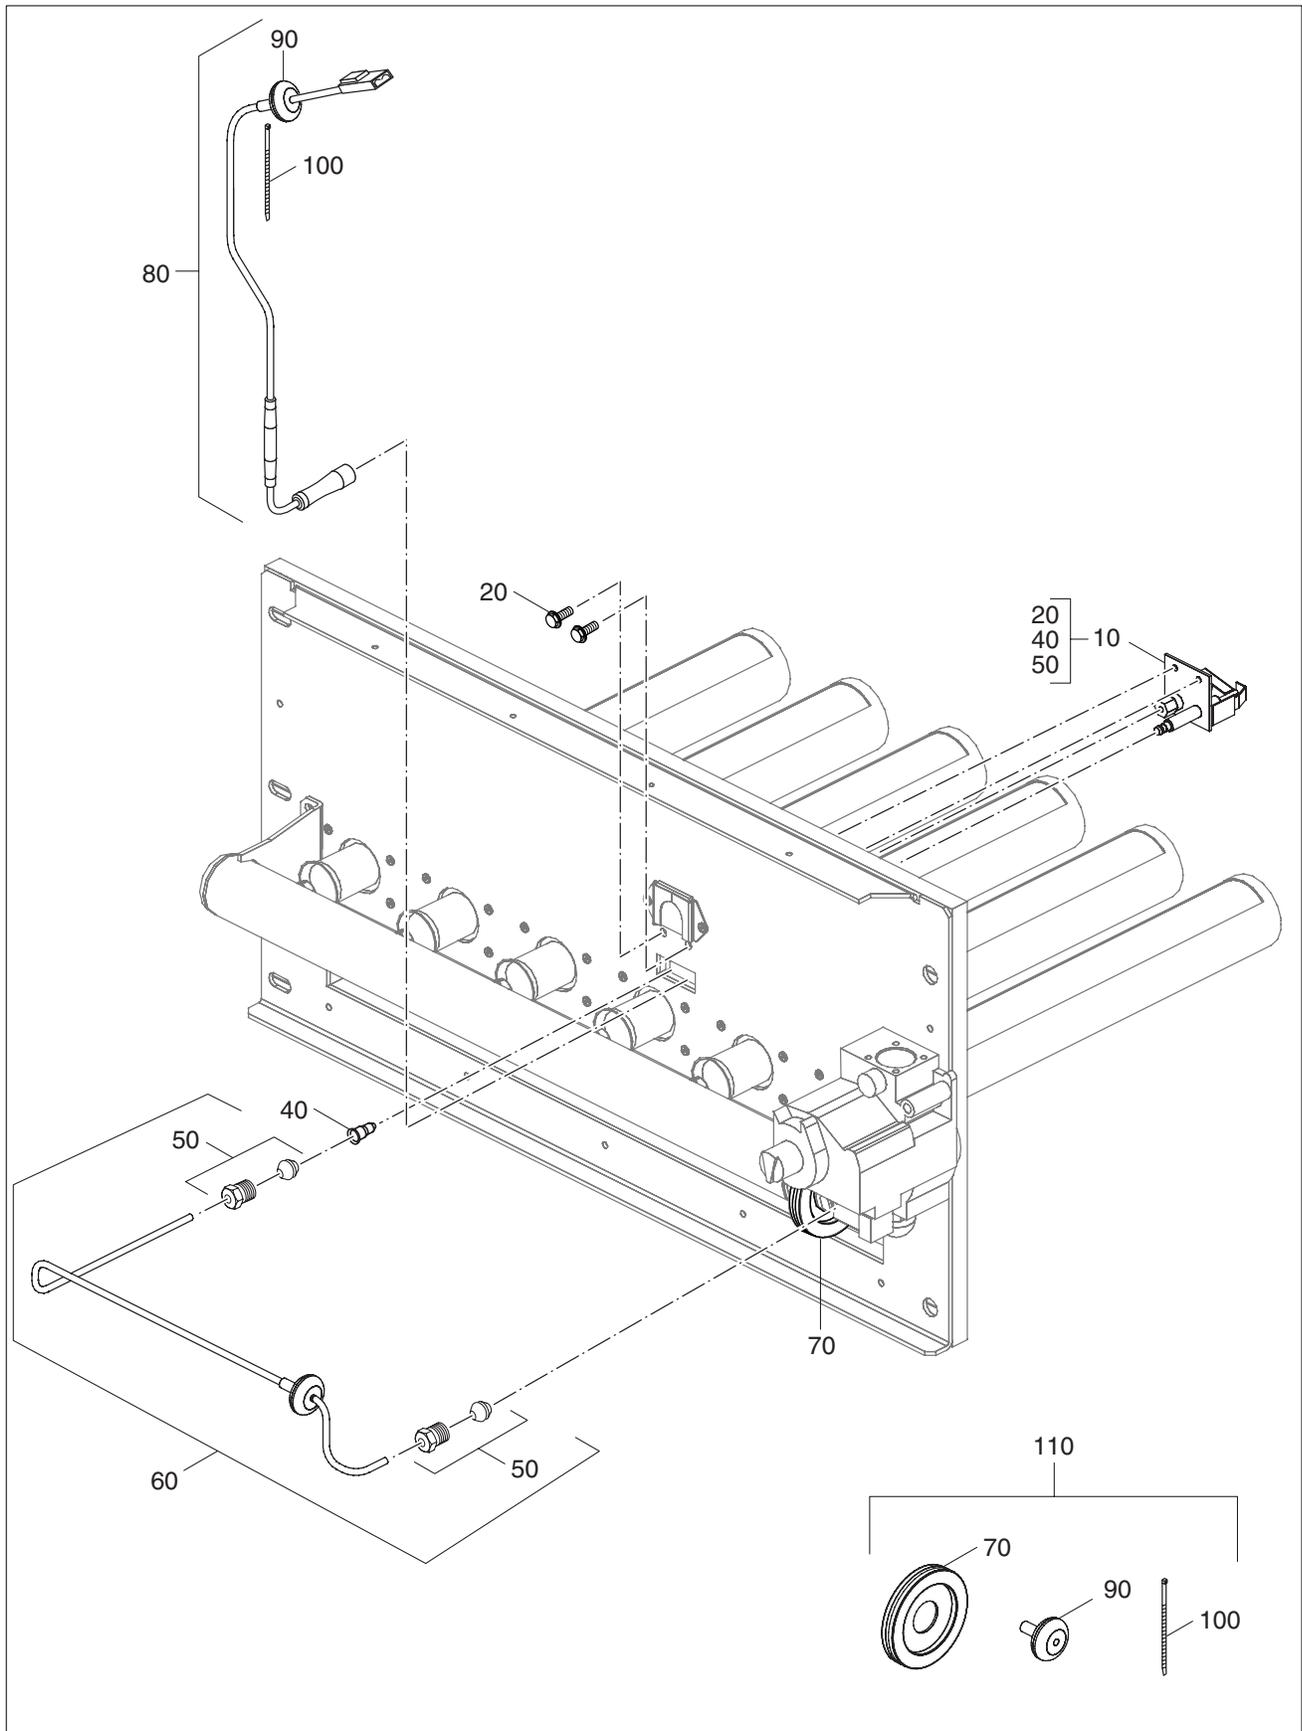

Fig. 46 Pilot burner, pilot gas line
**Pilot burner, Pilot gas line (Fig. 46)**